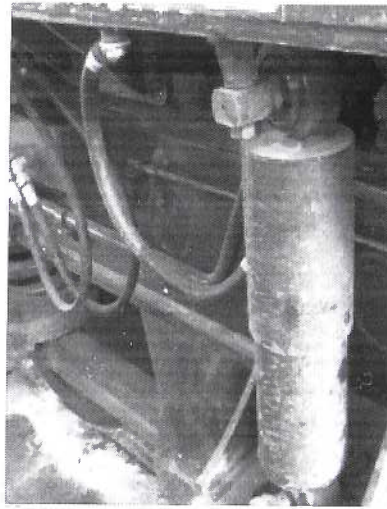

Fig. 1
3.1. At present vertical damper is stud mounted which is directly welded on loco shell and on this stud damper foundation bolt is fitted as shown in photograph below (Fig.1).